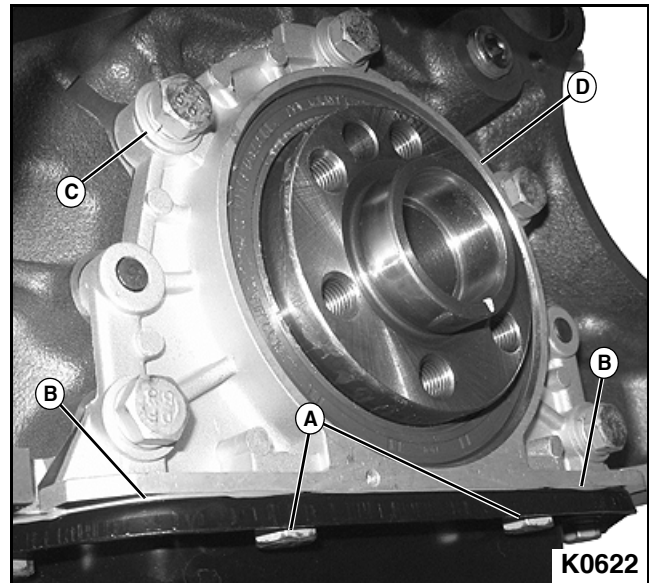

Figure 3-91
2. Remove two rear engine oil pan mounting bolts (A). **See Figure 3-91.**
3. Using a sharp blade, cut sealant (B) between engine oil pan and rear crankshaft seal retainer.
4. Remove five rear crankshaft seal retainer-to-cylinder block mounting bolts, flat washers, and lock washers (C) from rear crankshaft seal retainer (D).